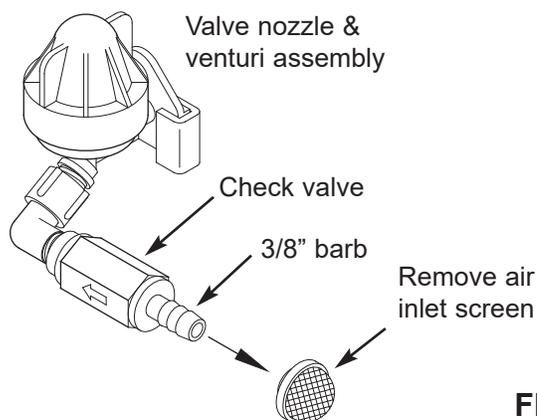

FIG. 5
2. Remove air inlet screen from check valve on the valve's nozzle & venturi assembly (See Figure 5).